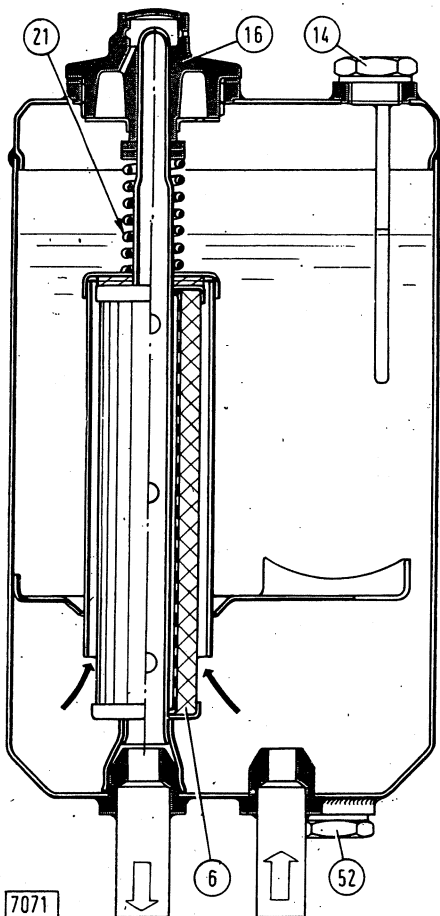

Fig.5 - Hydraulic oil reservoir.
- breather hole in the oil filter access plug (16, Fig.5): it must be unobstructed ;
- metallic filtering element (16) after washing it in kerosene and drying with compressed air.